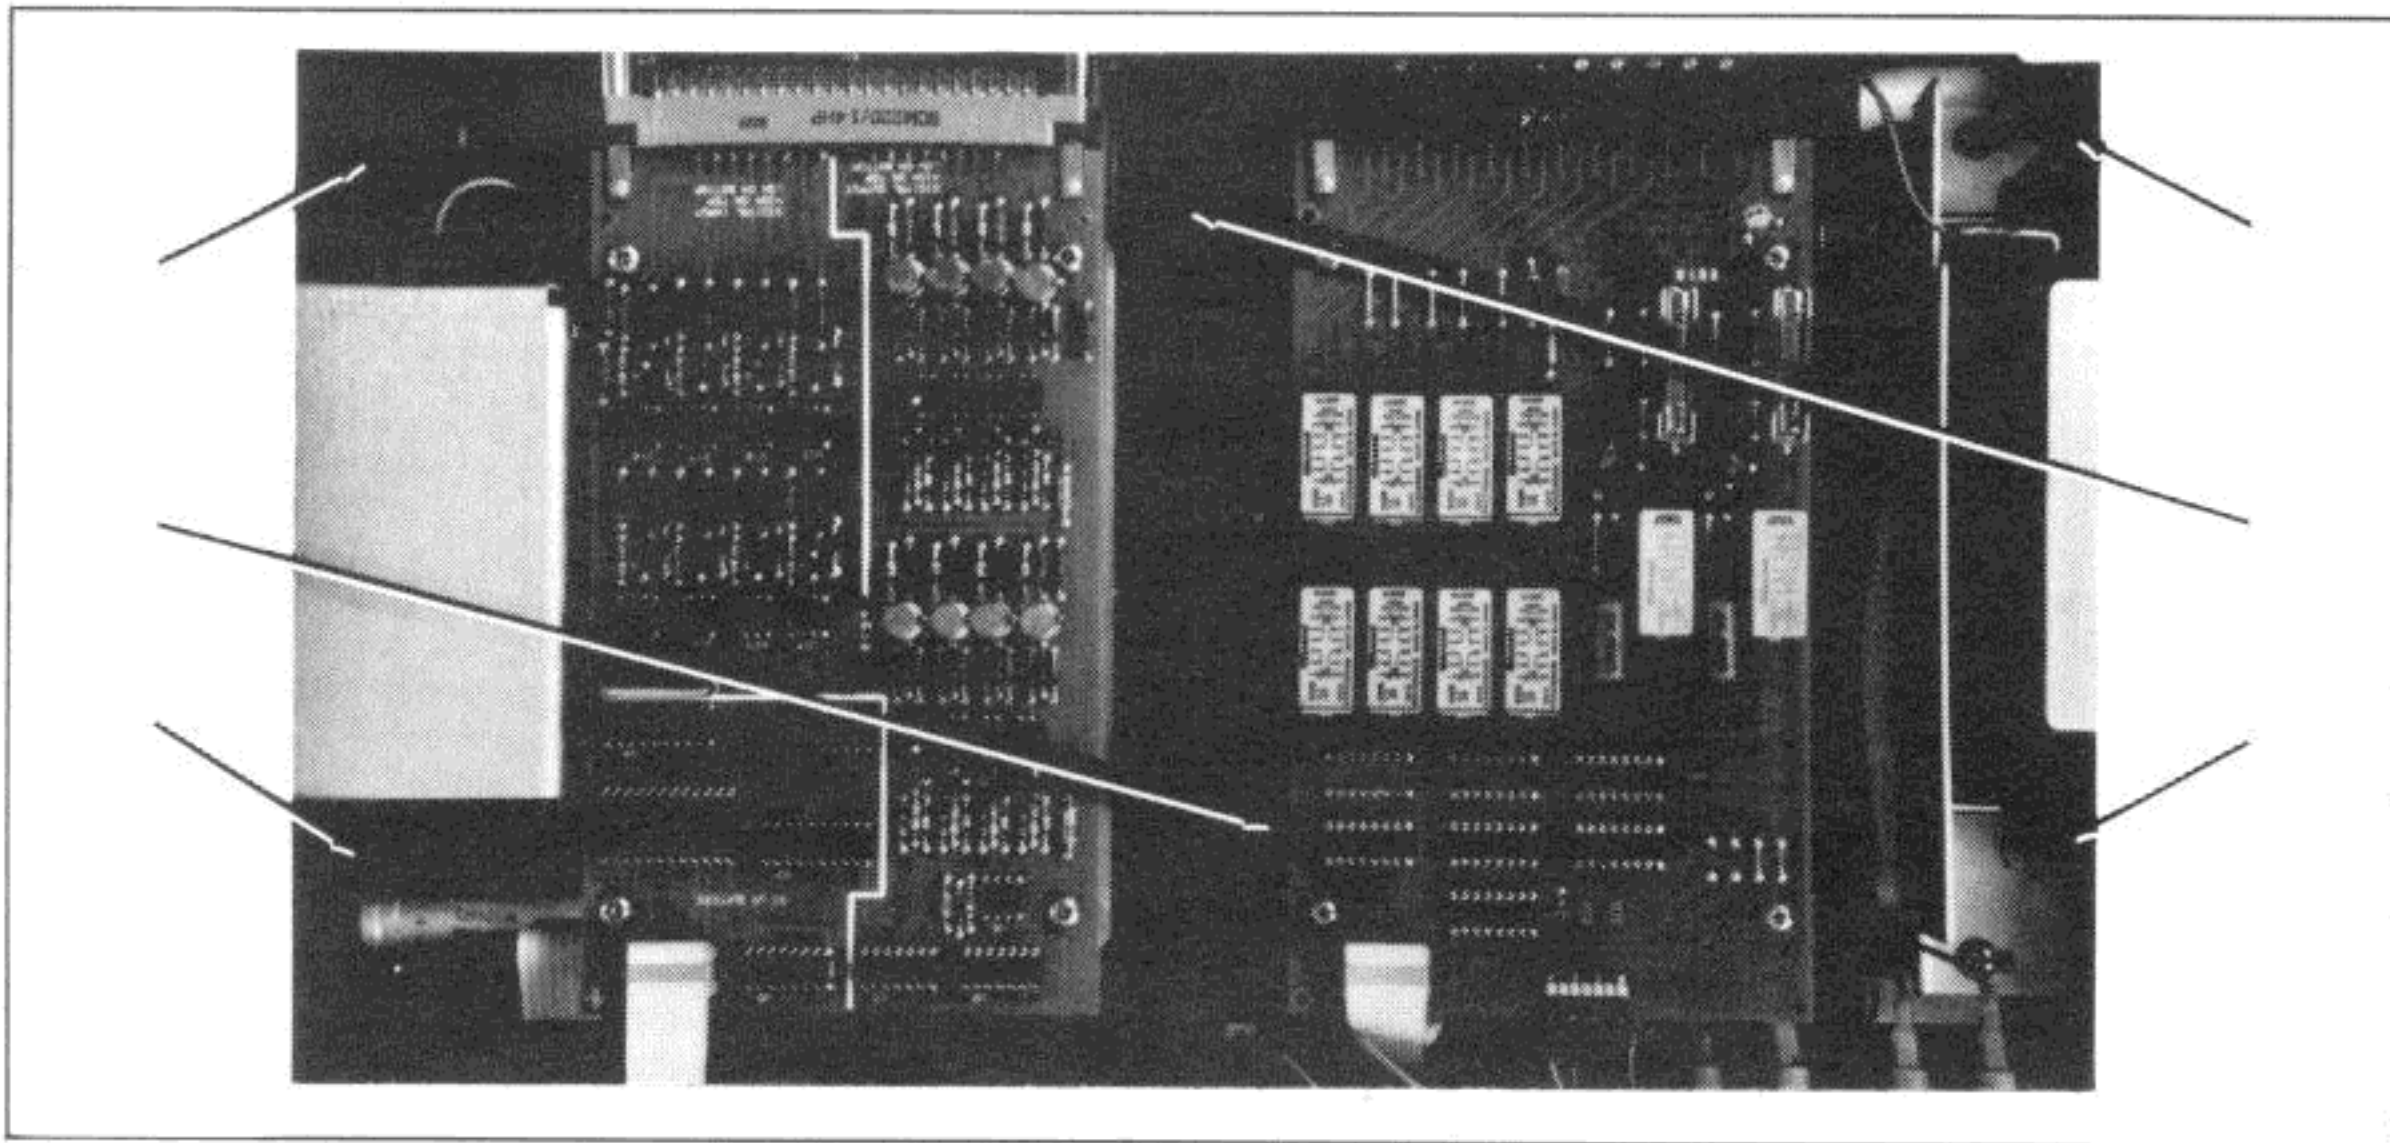

Figure 3-2-9. Plastic Spacer Placement
a. Before replacing the top cover, first make sure the main battery fuse has been replaced or the red wire to the battery has been reconnected. Then locate the six plastic spacers and place them on the cabinet screws as shown in Figure 3-2-9.